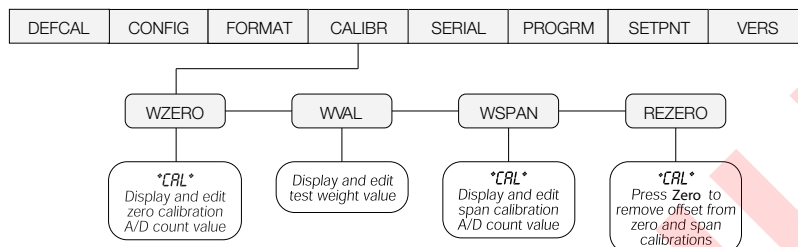

Figure 4-1. Calibration (CALIBR) Menu
3. Press **Units** ▷ until the display reads **CALIBR** (see Figure 4-1 on page 30). Press **Zero** ▾ to go to zero calibration (**WZERO**).